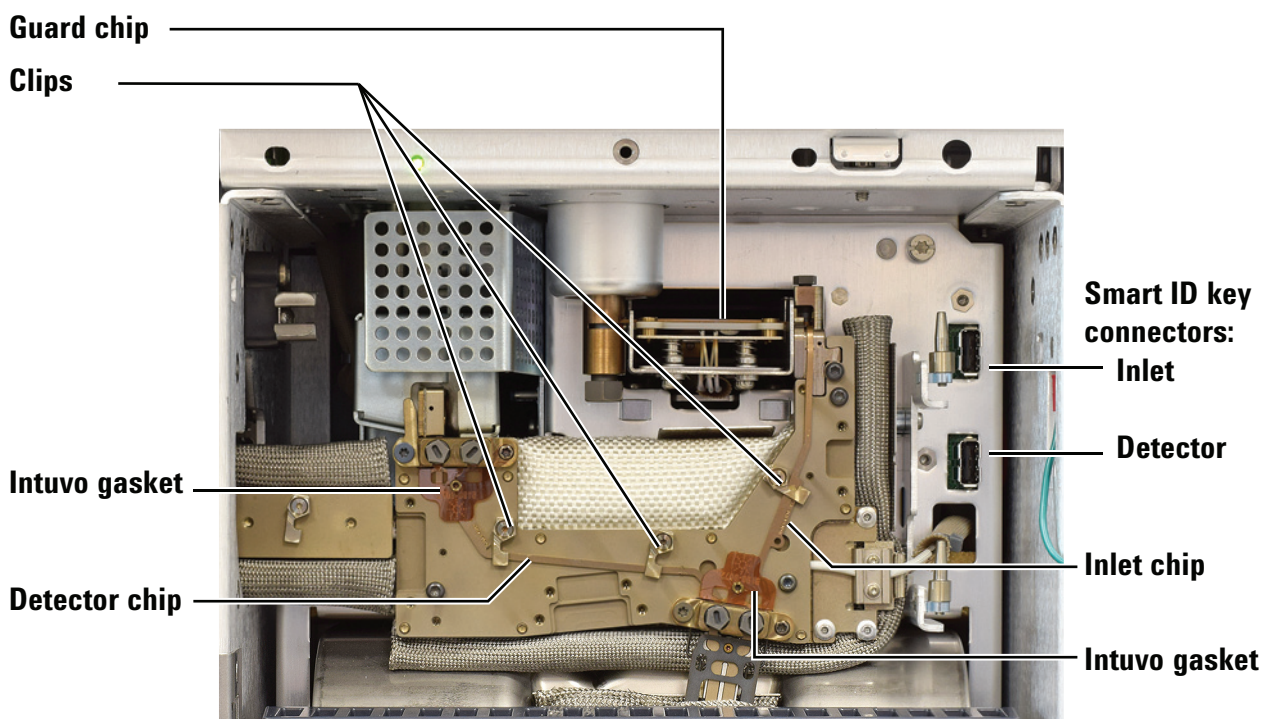

Figure 13 Intuvo bus components
Figure 13 shows the Intuvo major bus components.
The inlet and detector flow chips (see Figure 13) must be installed before installing a column or detector tail.
- 5 Use the Intuvo torque driver to open the clip that secures the inlet chip to the bus. See Figure 13.
- 7 Orient the new inlet chip. See Figure 13.